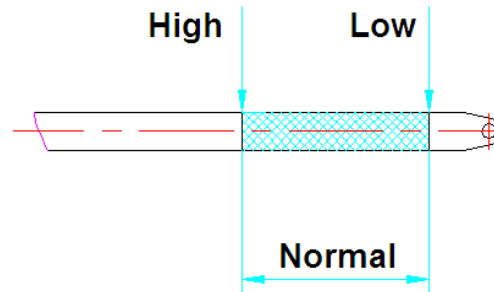

Fig. 6 Oil level check
2. Re-insert the oil gauge completely, and then pull it out again, check the oil level. If the oil level is in the grid region between "High" and "Low" (As shown in Figure 6), it indicates that it is normal.